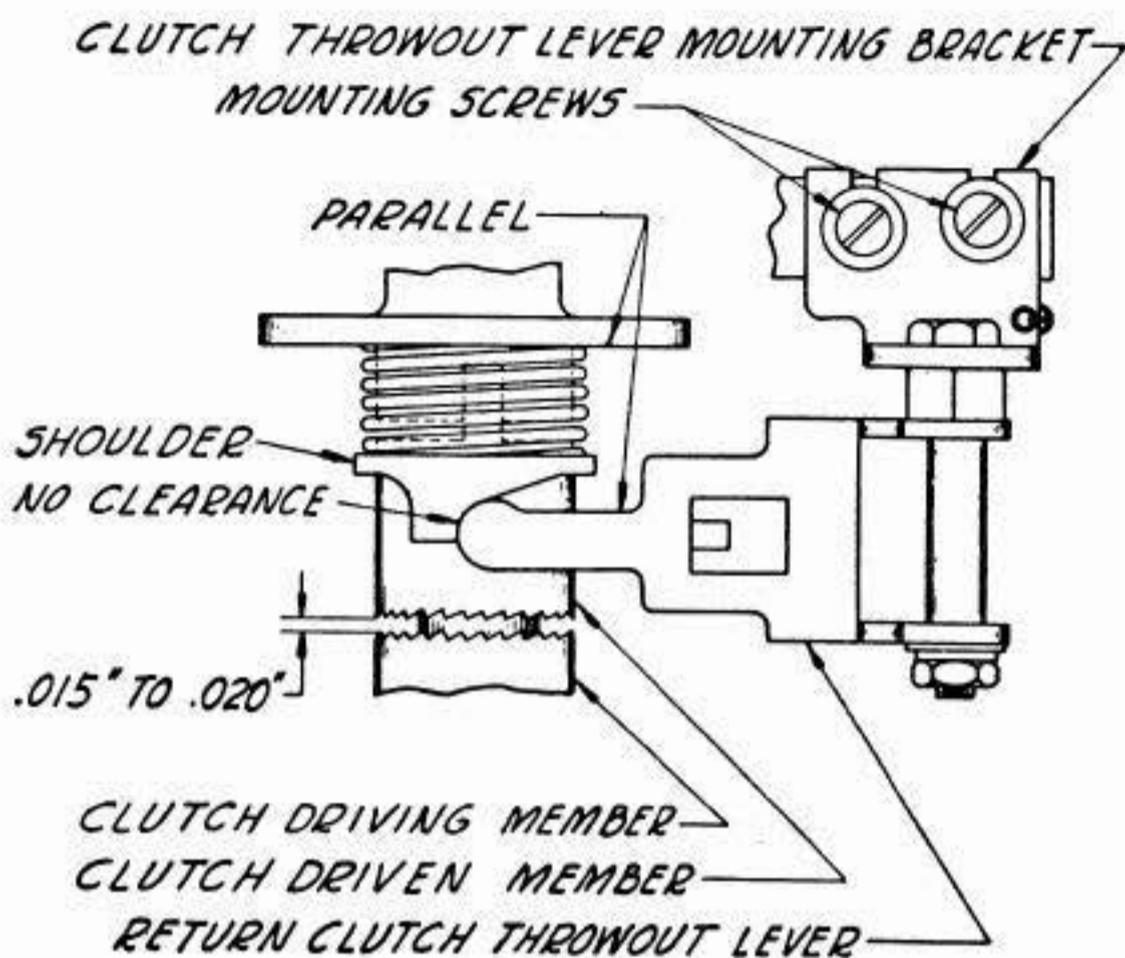

Fig. 15
(1) With the return clutch in its stop position, and the shoulder on the driven member held against the end of the return-clutch throwout lever, there should be a clearance of Min .015", Max .020" between the points of the opposite rows of teeth on the clutch driving-member and the clutch driven-member.
(2) To adjust, position the return-clutch throwout-lever bracket by means of its mounting slots. **Fig. 15**